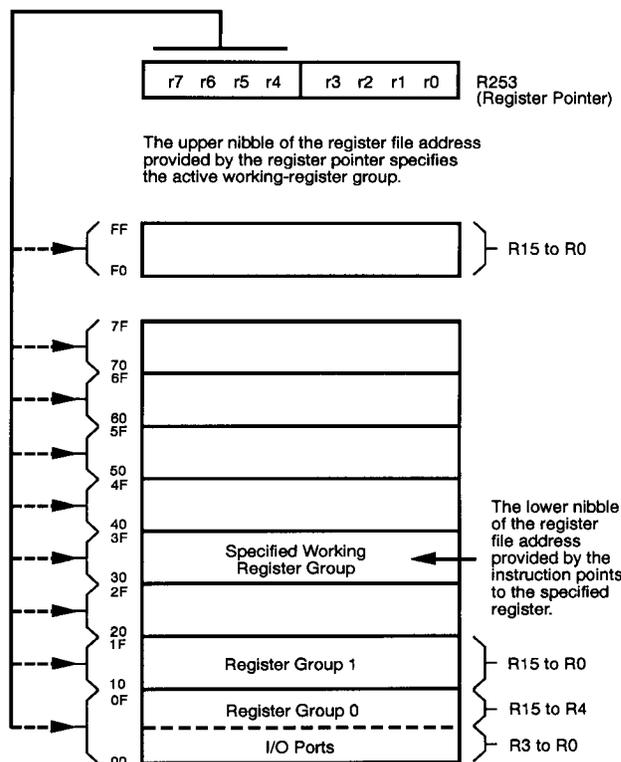

Figure 12. Register Pointer Register
**Register File.** The register file consists of four I/O port registers, 236 general-purpose registers and 15 control and status registers (R0-R3, R4-239 and R240-R255, respectively), plus two system configuration registers in the expanded register group. The instructions access registers directly or indirectly via an 8-bit address field. This allows a short, 4-bit register address using the Register Pointer (Figure 12). In the 4-bit mode, the register file is divided into 16 working register groups, each occupying 16 continuous locations. The Register Pointer addresses the starting location of the active working register group.